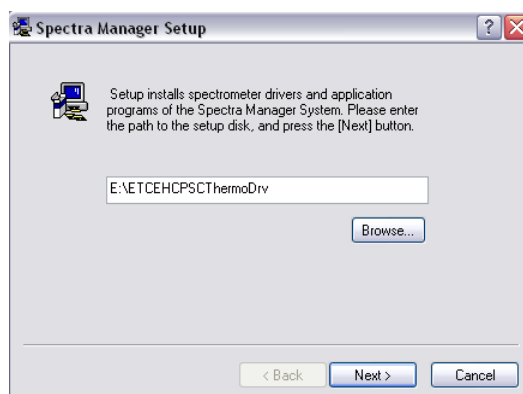

Figure 2.2 Data directory input screen
- (1) Select the [Operation] - [Install...] menu.
- (2) Click the <Browse...> button and select the “ETCEHCPSCThermoDrv” folder by clicking the folder. The program is recognized and the name “ETCEHCPSCThermoDrv” appears in the [Spectra Manager Setup] screen (See Figure. 2.2).